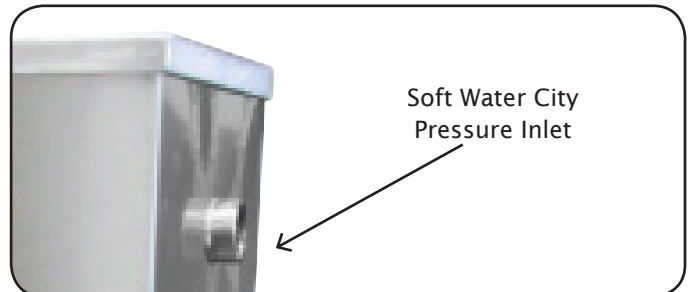

figure 2
1. Run city pressure line to 3/4" inlet on tank assembly with the hose and fittings provided. (Fig. 2)